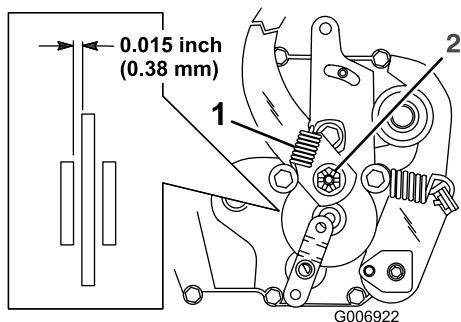

Figure 31
The parking brake is on the right side of the rear axle, inside the rear tire (Figure 31). If the parking brake does not hold securely, adjust it.
2. Remove the brake arm spring (Figure 31).
3. Remove the cotter pin that secures the brake adjusting nut and slightly loosen the nut (Figure 31).
4. Insert a 0.015 inch (0.38 mm) feeler gauge between the brake disc and brake puck (Figure 31).